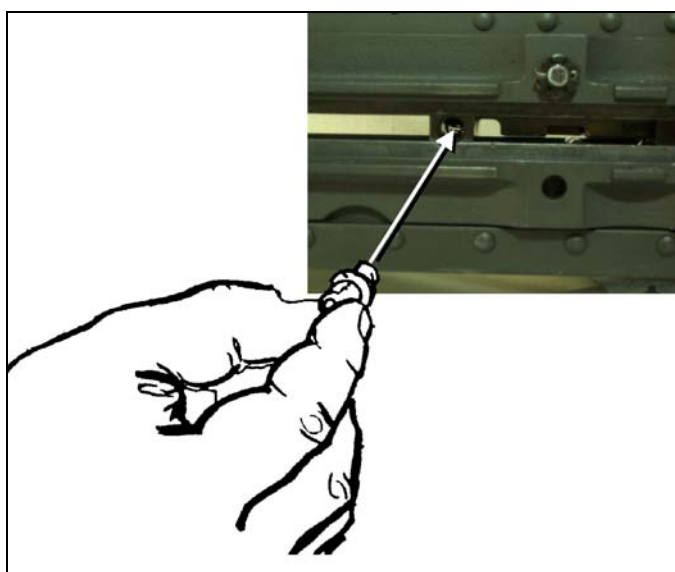

* **Figure 2-18.** Returning the barrel extension, barrel buffer, and bolt groups together.
c. **Bolt.** Place the bolt in the receiver, with the top of the cocking lever forward and the extractor down. The barrel extension, barrel buffer, and bolt groups may be assembled and returned to the receiver together (Figure 2-18).